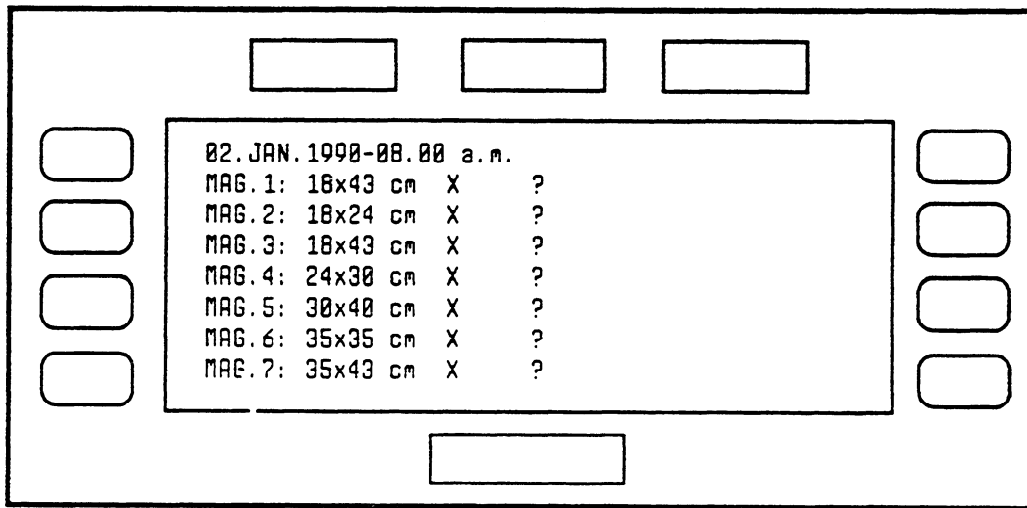

figure 5
4. Turn on the ML 700 and the 460RA. The display will be as shown in figure 5.
9 Press KEY 8 until the display is as shown in figure 5.